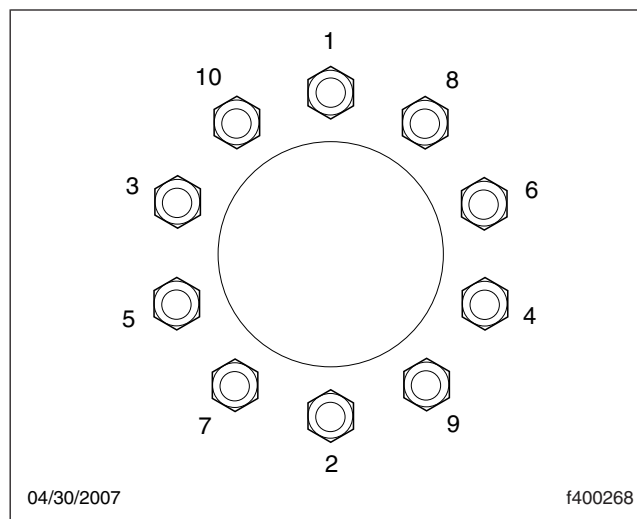

Fig. 21.4, Tightening Pattern, 10-Hole Wheels
- 4.3 Make sure all wheel nuts are tightened. If tightening is necessary, use the tightening pattern in Fig. 21.4 to initially tighten the flange nuts to 50 to 100 lbf-ft (68 to 136 N·m). Then tighten the flange nuts to 450 to 500 lbf-ft (610 to 678 N·m).